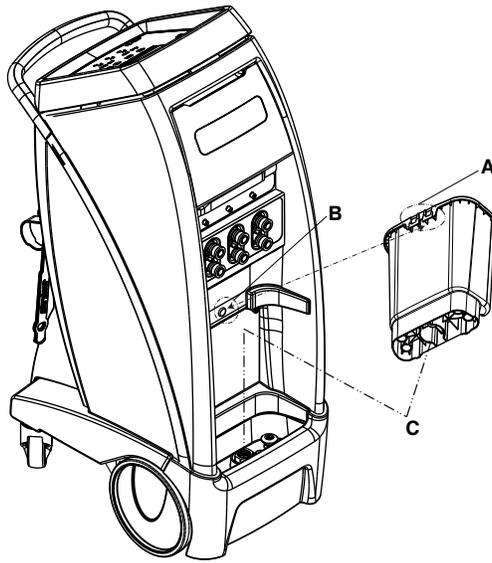

Figure 7 – Removable reservoir
To remove the reservoir, pull forward at an angle, and lift out the reservoir (Figure 7).
1. To replace the reservoir, align the base of the reservoir over the drain (C).
2. Align the notch on the back of the reservoir (A) with the hook on the controller (B) (Figure 7).